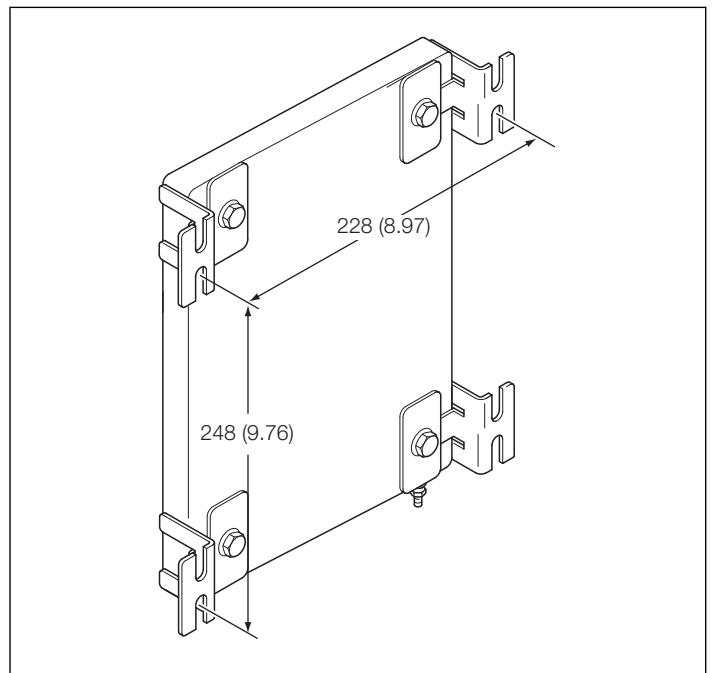

Fig. 2 Fitting enclosure mounting brackets
1. Referring to Fig. 2, fit the 4 supplied mounting brackets to the enclosure as shown.